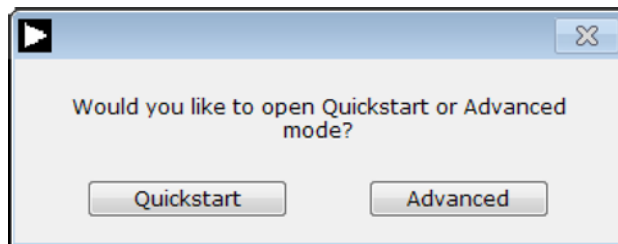

Figure 15. AD411x Eval+ Startup Mode Selection
3. The dialog box shown in in Figure 15 appears as a pop-up over Figure 16. Quick start mode provides a simplified version of the software that can be used as a starting point for evaluating the **AD4114**. This mode provides a graphical user interface (GUI) for setting up inputs, as shown in Figure 16, and allows the user to configure the device further by using the blue configuration + buttons (Label 7 in Figure 16).